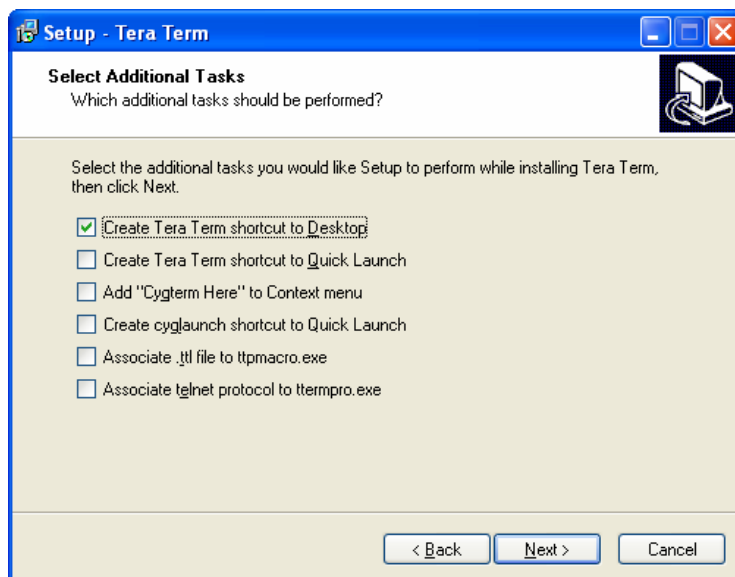

Figure 6-11: Select Additional Tasks Screen
13. At the Select Additional Tasks screen select **Create Tera Term shortcut to Desktop**, then click **Next** (Figure 6-11).